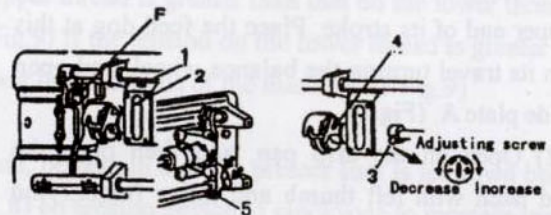

Fig.4
Lubrication of rotating hook (Fig.4)
Adjusting the lubrication (Fig.4)
2) Loosen bell crank screw F (Fig.4) and adjust the height of the feed dog by raising or lowering it.
- 3) Lay down the machine head toward the other side and loosen the screw 5 (Fig.4).